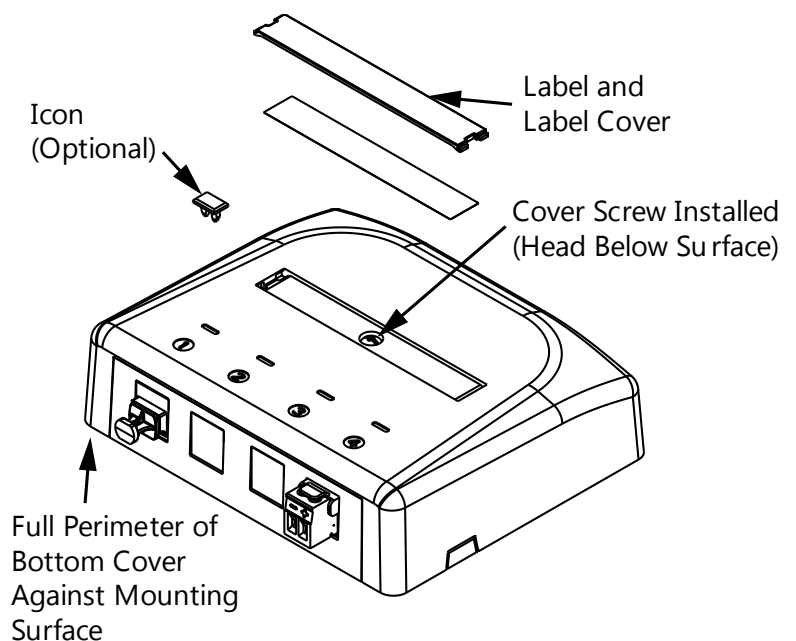

Figure 11
3. Thread the cover screw into the hole in the top of the cover; tighten the screw until it is snug and the head of the screw is below the surface of the label holder. See Figure 11.